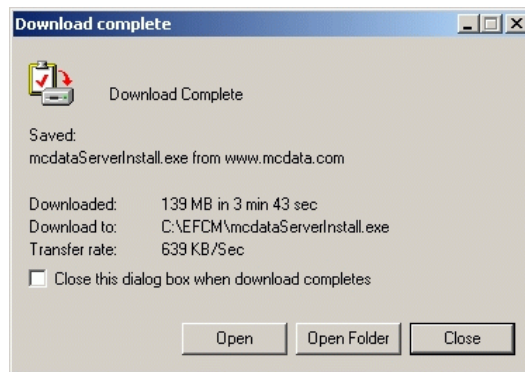

Figure 4-86 Download Complete Dialog Box
- k. A *Download* dialog box displays, showing the estimated time remaining to complete the download process. When the process finishes, the dialog box changes to a *Download complete* dialog box (Figure 4-86).